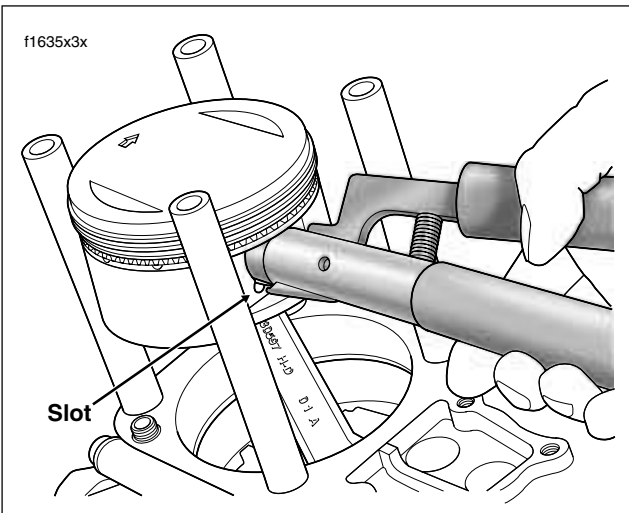

Figure 3-25. Remove Piston Pin Circlip
- a. Insert the PISTON PIN CIRCLIP REMOVER/INSTALLER (HD-42317A) into the piston pin bore until claw on tool is positioned in slot of piston (directly under circlip). See Figure 3-25.